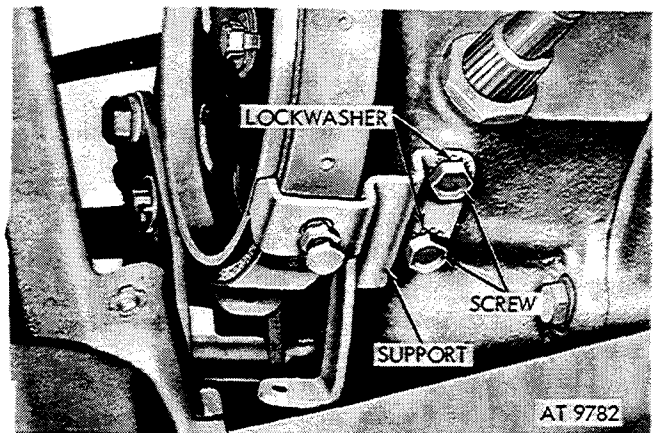

Figure 2-359. Remove Band-alining screw support assembly from transfer.
(3) Remove two screw and lockwasher assemblies securing band-alining screw support assembly to transfer (fig. 2-359).